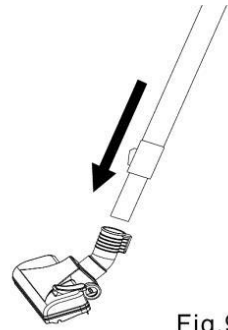

Fig.9
**Step 9:** Insert the end of the extension tube into the floor brush (Fig. 9). Make sure the brush is tightly attached to the tube.